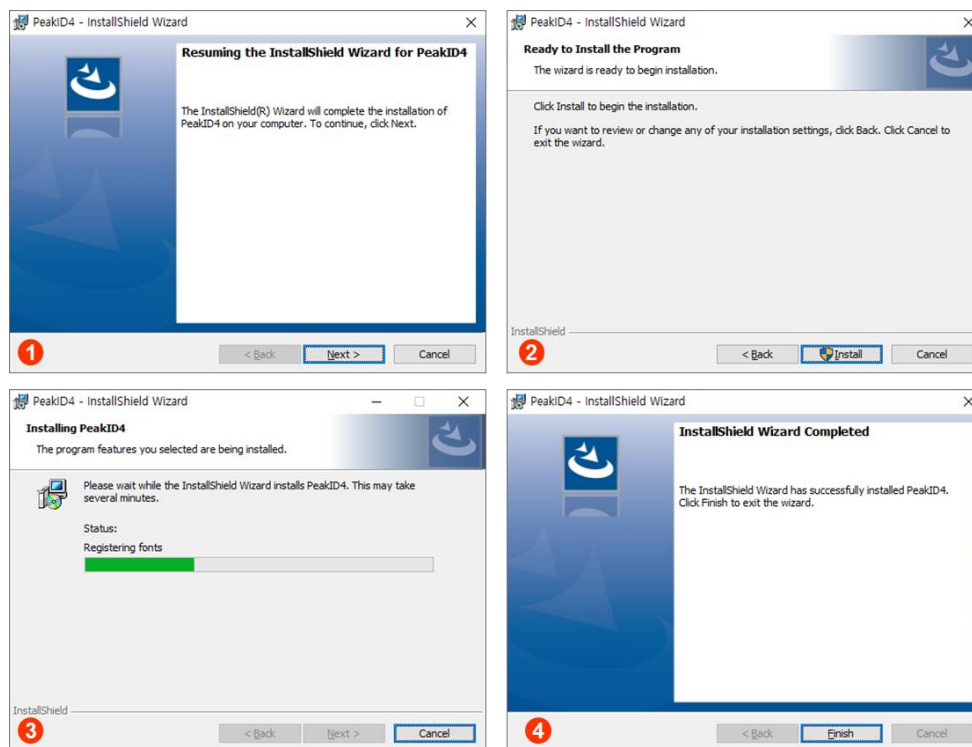

Figure 7.2.1. InstallShield Wizard for PeakID (initial screen)
2. Follow the prompts in the InstallShield Wizard (Figure 7.2.1).